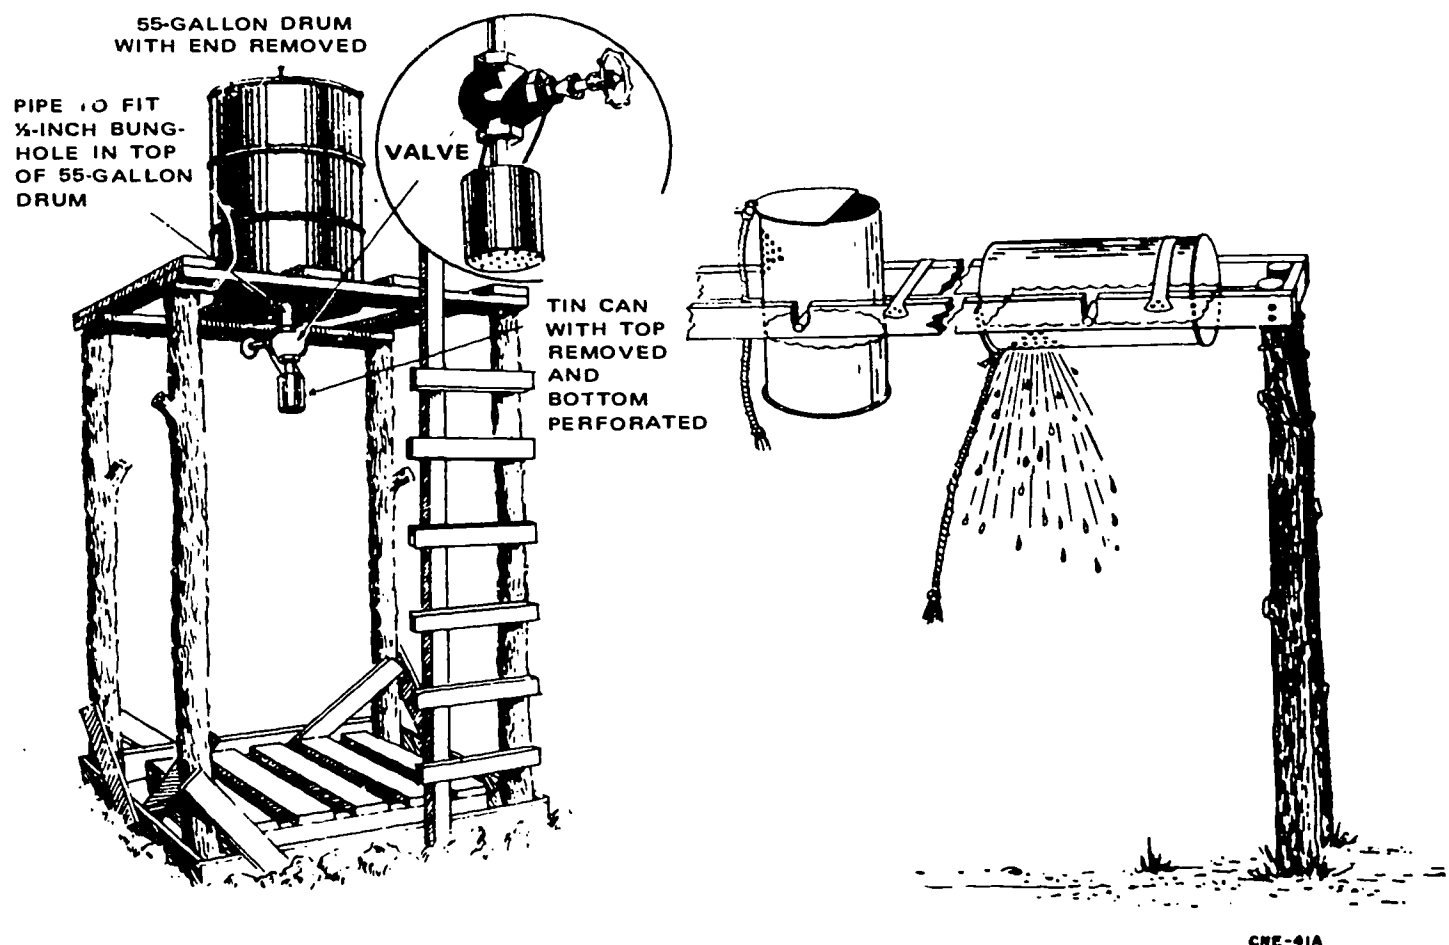

Figure 2-1. Field bathing device.
**Bathing.** It is virtually impossible to take a complete bath while living under field conditions, but even the limited bathing possibilities available to you may make the difference between poor health and keeping fit. Daily washing of your armpits, ears, feet, and crotch with soap and water is a most important part of field hygiene. You should shave every day if possible. If possible, you should wash your hair at least once a week with soap and water. Your helmet can be used as a wash basin. Fill it with water, wash your body, and then shave. You can build simple bathing devices, such as those shown in figure 2-1, if you are going to be in one location for a long time.